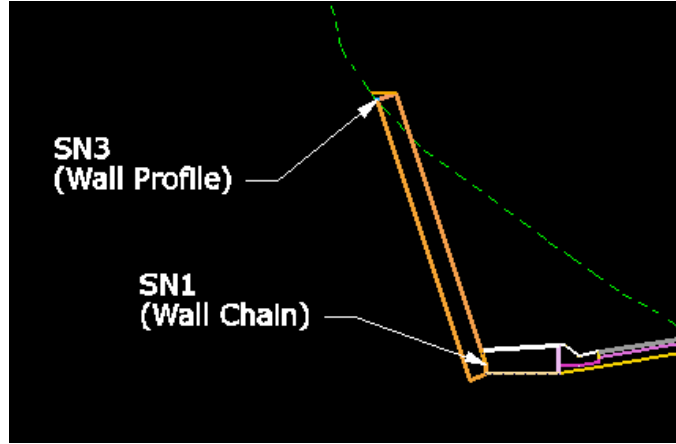

Figure 1-7: Search Text Locations
- Under **Search Criteria**, click on the button next to **Proposed Finish Grade**. Add the **Lv Names** to the **Proposed Finish Grade** dialog. The **Proposed Finish Grade** must travel from catch point to catch point, and it must pass through the text points **SN1** and **SN3** (See Figure 1-7 for text locations). The following levels must be specified for a soil nail retaining wall: **X_P_SN_Wall_Backfill**; **X_P_SN_Wall_Face**; **X_P_SN_Wall_Back** and **X_P_SN_Wall_Top**. Close the dialog box.
9. Add the search text for the top of Soil Nail wall (SN3) as shown in the figure below. Click on the Add tab to add the text to the search text box. Click on the apply button to generate the chains and profiles based on the locations of the SN1 and SN3 text (See Figure 1-7).